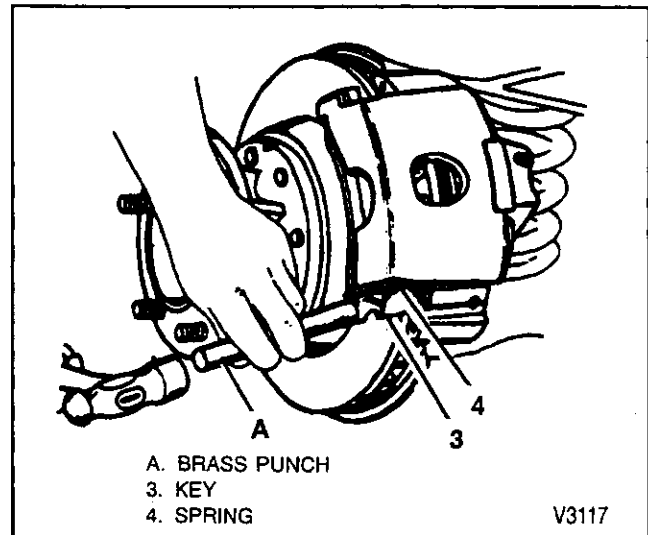

Figure 8—Installing the Caliper Support Key
3. Spring (4) and support key (3) (figure 8).
4. Bolt (2).